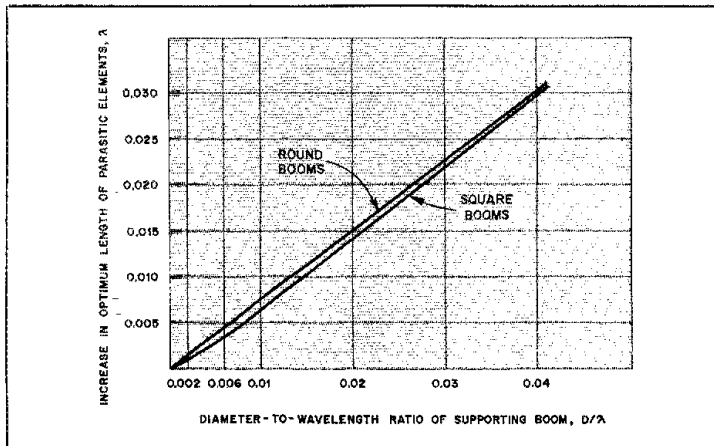

Fig. 3 — Viezbicke's early data for NBS Technical Note 688 shows different correction factors for round and square booms.
□ I would like to make some points concerning the Lulis article, "Go for the Gain, NBS Style," (Aug. 1982 *QST*). The boom-correction factor in Viezbicke's preliminary data was based on elements passing through the boom. When the *NBS Technical Note 688* was published, this point was omitted. Mounting elements on top of the boom with a plate and muffler clamps requires a different correction factor, as pointed out by Lawson in "Yagi Antennas: Practical Designs" (Dec. 1980 *Ham Radio*). The length of the elements is so sensitive to the type of boom and the mounting procedure that Viezbicke's preliminary data show separate curves for elements passing through round and square booms — even though the final report states "round and square booms yielded similar results" (Fig. 3).